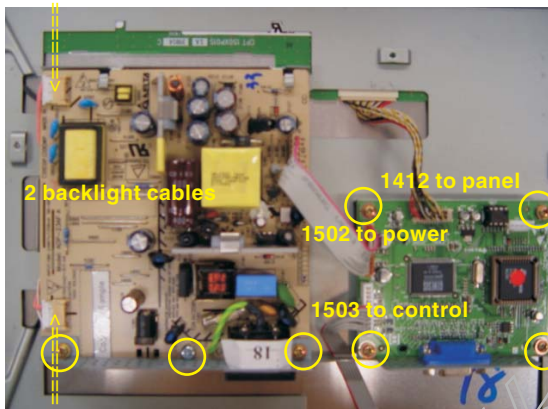

Fig.9
- Remove the metal frame board as shown in Fig. 9.
- Remove the seven screws as shown in Fig. 9.
- Disconnect the 1412,1502 ,1503 and 2 backlight cables as shown in Fig9 .